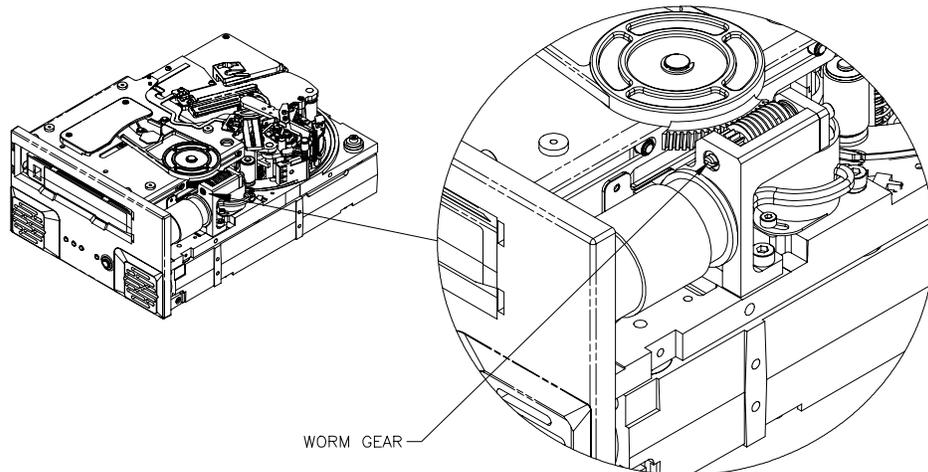

Figure 17. Diagram of Viper 200 showing worm gear
12. Use a flat-blade screwdriver to turn the worm gear counter clockwise (to the left). Figure 17 shows the location of the worm gear. This will gradually raise the cartridge elevator and cause the cartridge to slide partially out of the drive.